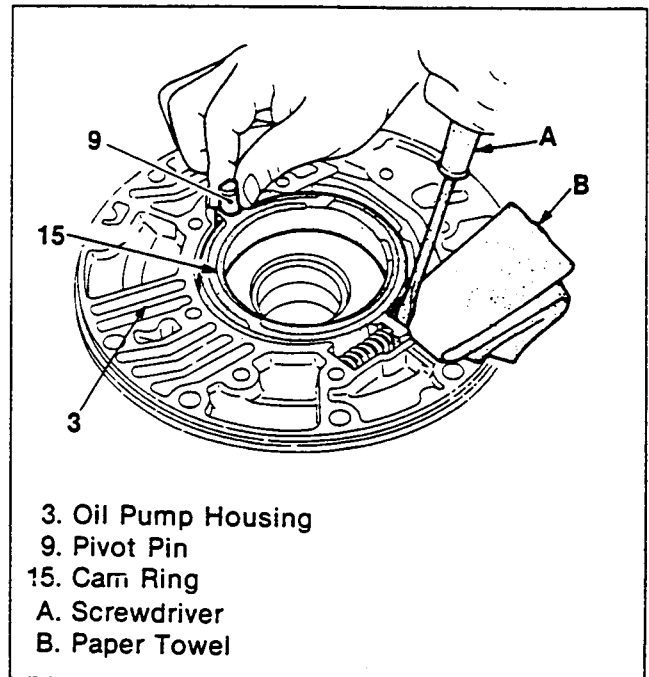

Figure 72. Pivot Pin Installation
3. Pressing the cam ring with a flat-end screwdriver, install the pivot pin (figure 72).